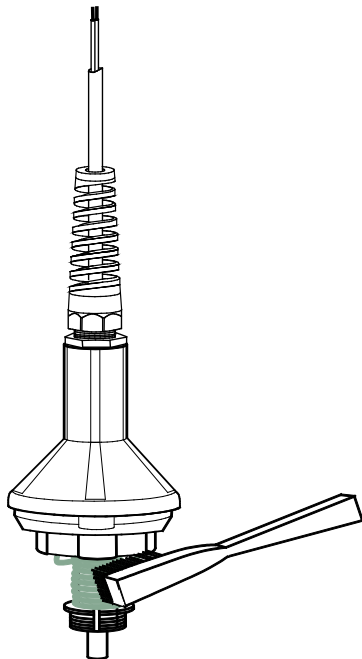

FIGURE 8-3. Using a toothbrush to clean sensor
5. To clean, immerse the top part of the sensor in distilled white vinegar (3% acetic acid) for about 30 minutes. If vinegar is unavailable, use a soft toothbrush, automatic dishwasher detergent, and clean water to clean the cathode, anode, and plastic. Rinse all components thoroughly with clean water after cleaning (see FIGURE 8-3).